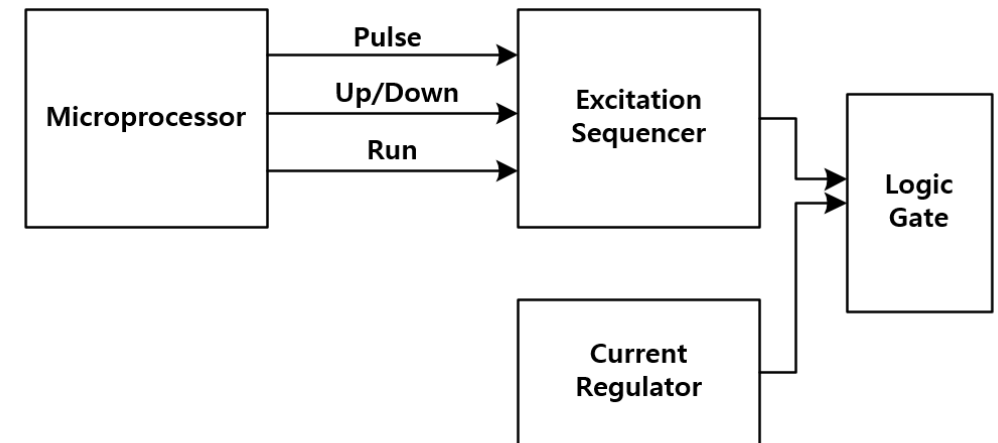

Figure 8. General Configuration of CLPD
- CLPD is generally composed of an excitation sequencer, a current regulator and a power module for motor driver (Figure 8).